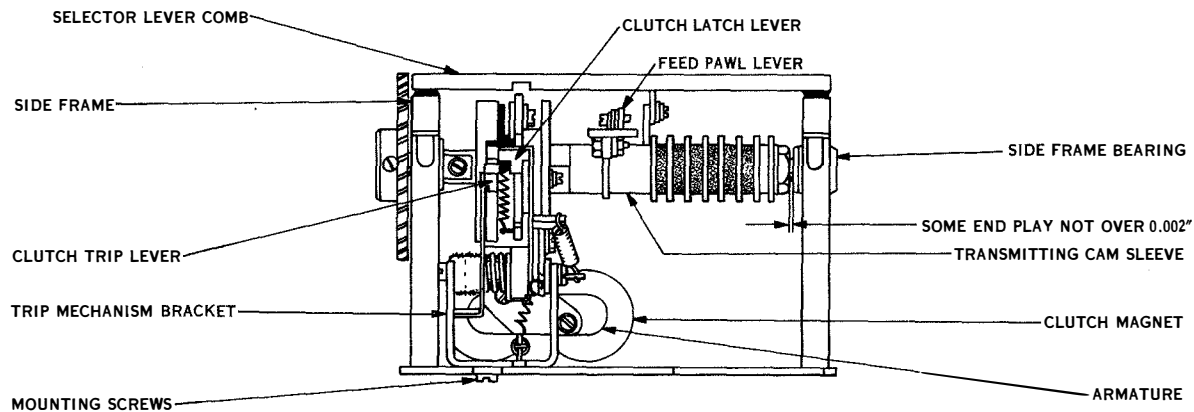

Figure 7-73. Transmitting Cam Sleeve End Play
(1) TRANSMITTING CAM SLEEVE END PLAY. (See figure 7-73.)—The transmitting cam sleeve should have a maximum end play of 0.002 inch. Adjust the end play by adding or removing shims between the sleeve and side frame bearing.